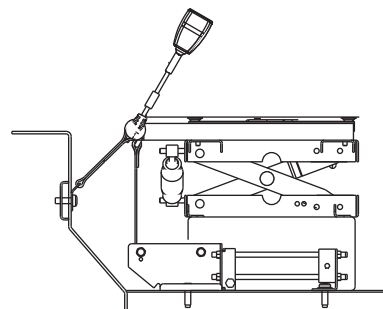

Figure 6
1. Position SEAT in lowest position. See FIGURE 6.